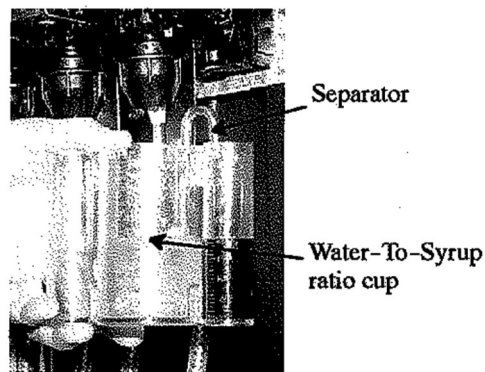

Figure 1
2. The beverage tubes, drain tube and power cord are routed through the large opening in the bottom of the unit. See the MOUNTING TEMPLATE (Figure 1) for locating the required clearance opening in the counter for these utility lines.